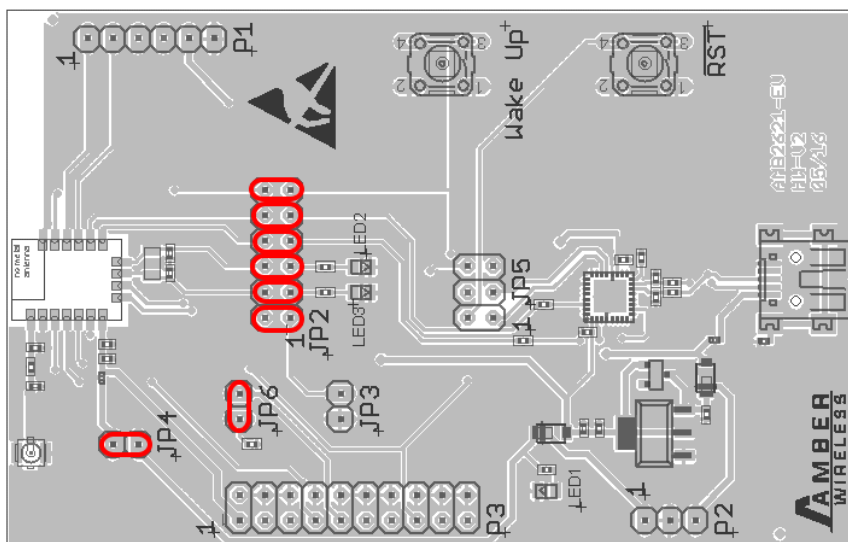

Figure 1: Default jumper placement of the Proteus-I and Proteus-II evaluation board. Red means "jumper must be set".
- the Proteus-I evaluation board with jumpers set as specified in figure 1. Other jumpers not set.
- the Proteus-II evaluation board with jumpers set as specified in figure 1. Other jumpers not set.